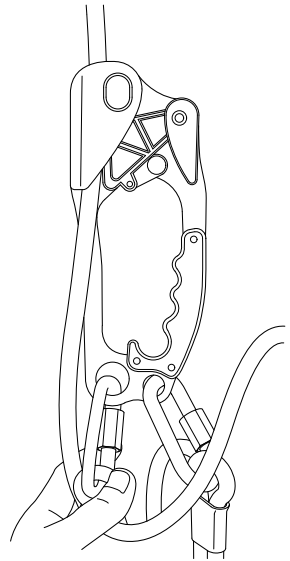

FIG. 3
4. Release the spring arm and ensure that the rope is retained in the correct position (Fig.3)